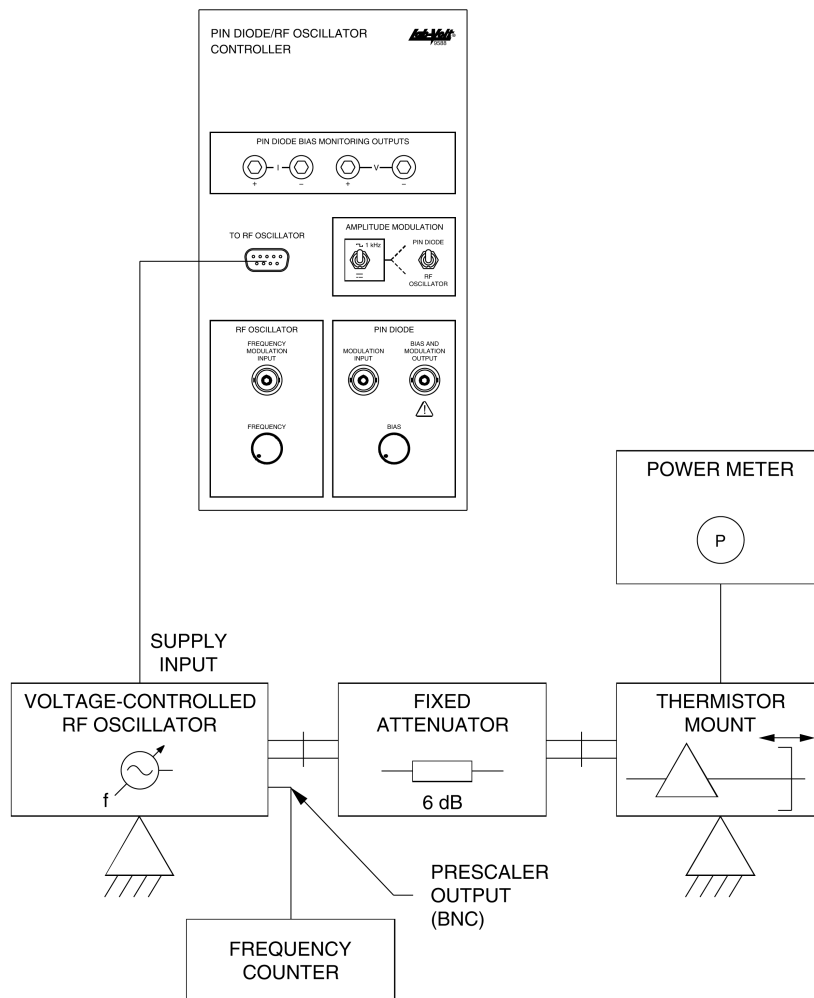

Figure 2-6. Setup used to perform VCO output frequency and power measurements.
- 2. Assemble the components as shown in Figure 2-6.